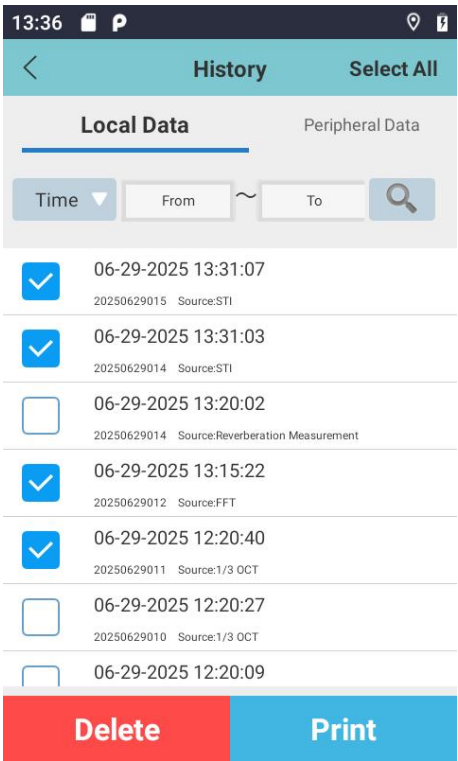

Figure 6.90
- a. Select multiple records (see Figure 6.90) and tap the Delete icon.